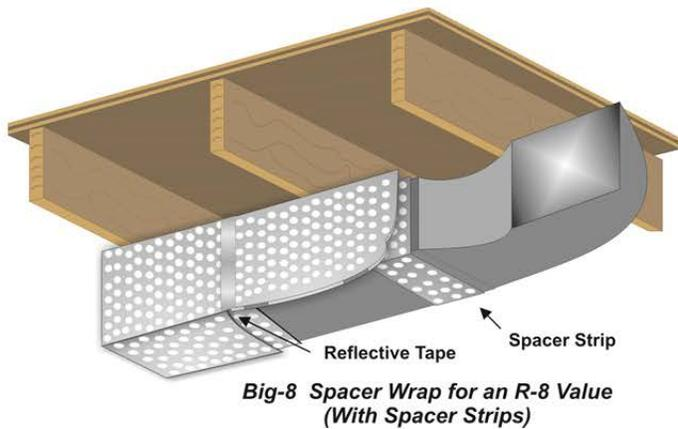

FIGURE 5
- a. To achieve a thermal resistance of R-8, 2-inch-wide spacer strips of rFOIL™ reflective foil insulation are wrapped around the duct to create spacers at 2-foot intervals. The Big-8 duct insulation is wrapped around the duct with the spacers creating an airspace between the duct and the insulation. All seams and joints are sealed using rFOIL Metalized Tape (see Figure 5 of this report).